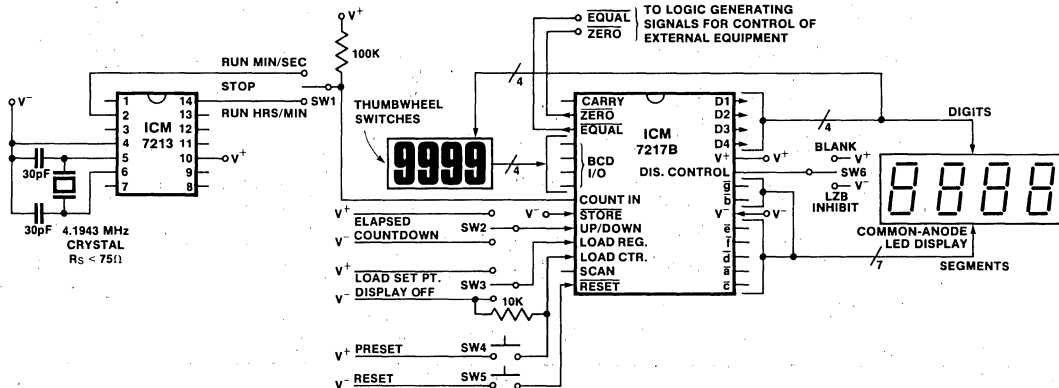

Figure 8: Precision Timer
To force the device to display leading zeroes after a fixed decimal point, use a bipolar transistor and base resistor in a configuration like that of Fig. 8 with the resistor connected to the digit output driving the D.P. for left hand D.P. displays, and to the next least significant digit output for right hand D.P. display. For common cathode devices use a PNP and NPN transistor as shown below:
3. PRECISION ELAPSED TIME/COUNTDOWN TIMER (Figure 8)